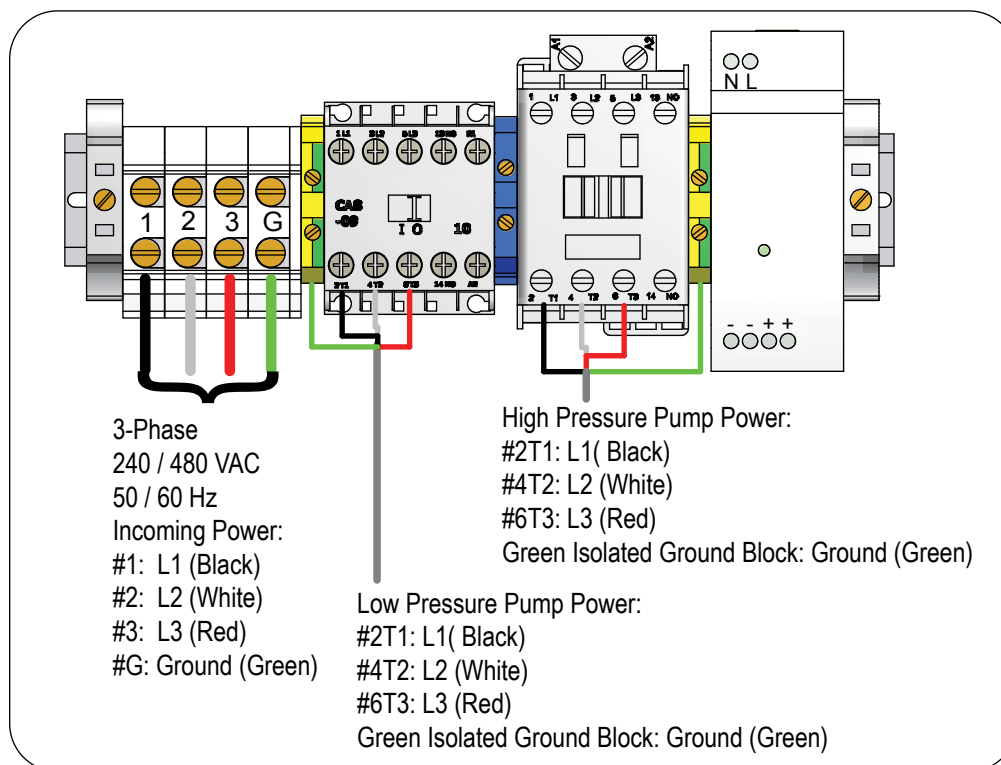
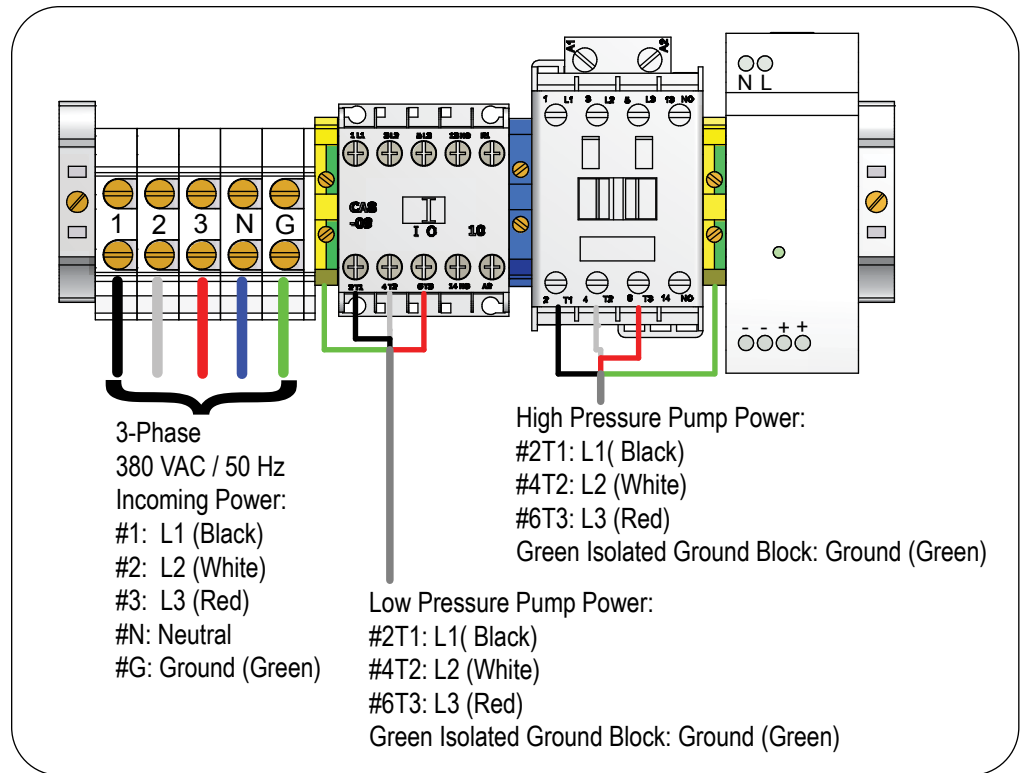

Figure 23: Wiring at the Connector Block (Three Phase 60 Hz)
Figure 24: Wiring at the Connector Block (Three Phase 50 Hz)
For three phase power (50 or 60 Hz), attach the wires to terminals #2T1, #4T2, and #6T3 of the LPP contactor, and #G to the green isolated ground block. See *Figure 23 or Figure 24 on page 54*.
For three phase power (50 or 60 Hz), use terminals #2T1, #4T2 and #6T3 on the HPP contactor, and #G on the green isolated ground block. See Figure 23 or Figure 24 on page 54.
- #1, #2, #3, and #G for three phase 60 Hz power (*Figure 23 on page 53*)
- #1, #2, #3, #N, #G for three phase 50 Hz power (*Figure 24 on page 54*)